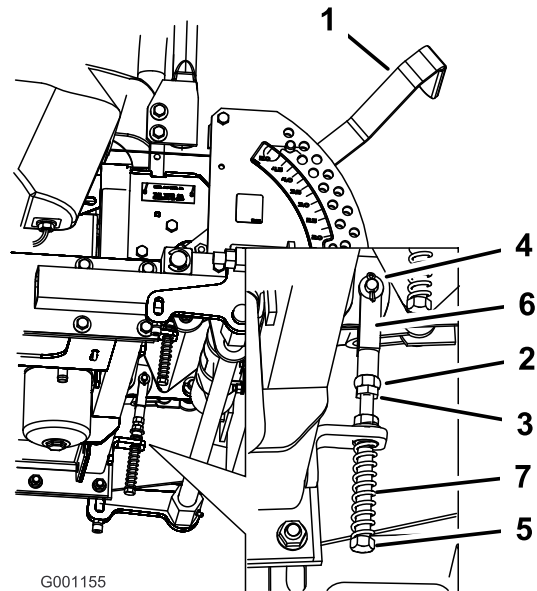

Figure 78
9. Apply slight rearward pressure on the motion control lever, turn the head of the adjustment bolt in the appropriate direction until the control lever is centered in the neutral lock position (Figure 78).
10. Tighten the nut and jam nut (Figure 78).
8. If adjustment is needed, loosen the nut and jam nut against the yoke (Figure 78).